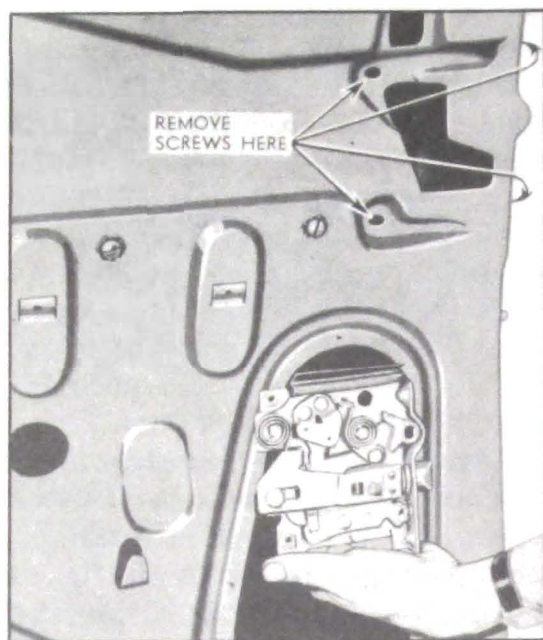

Figure 13-10—Door Lock Removal—1948 Models
4. Remove 4 screws which attach lock to inner panel. See figure 13-10.